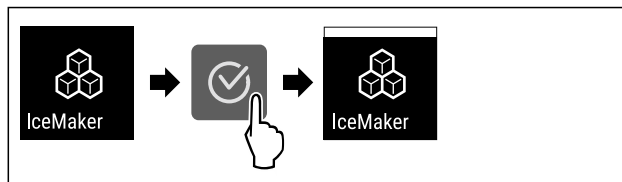

Fig. 17
- ▶ Complete the steps (see Fig. 17) .